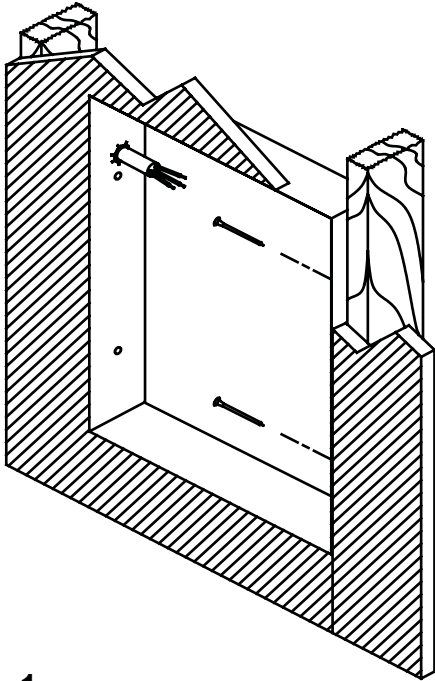
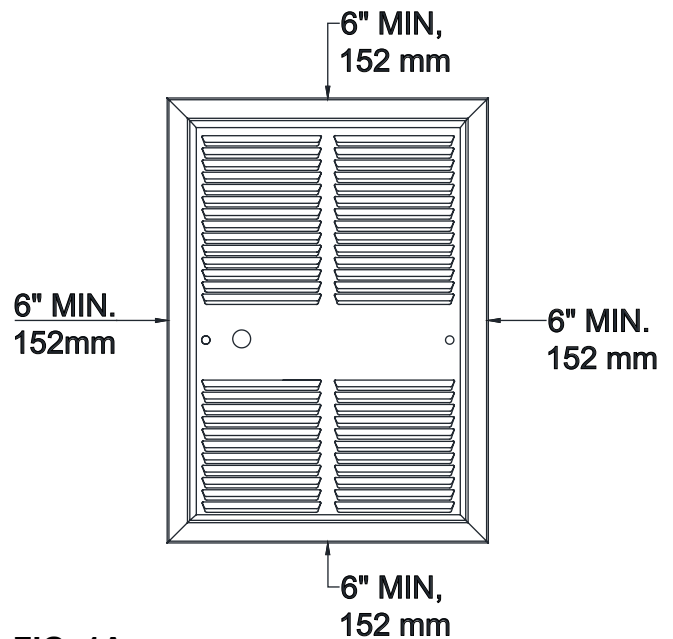

FIG. 1
FIG. 1A
1. Position wall box a minimum of 6 inches from adjacent wall and floor, See figure 1A, page 3. Secure to wall stud with nails or screws. Wall box must be installed with front edge flush with finished wall surface. See figure 1, page 3.